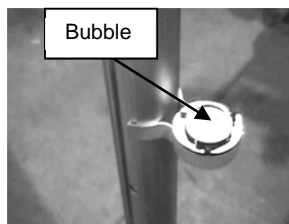
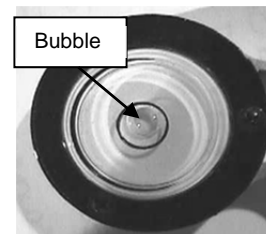

Figure 16
Figure 17
15. Before the Easytrack post tightens against the ceiling; check the clip-on level to make sure the bubble is in the centre of the circle. Tilt the post until the bubble reaches the centre of the circle (see Figure 16 and Figure 17).